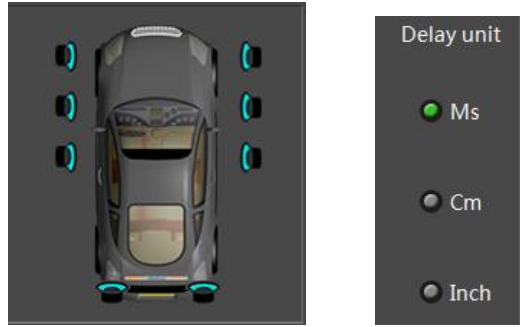

Figure 3.3.3
4. MAESTRO-8DSP processor output signal path can be any type of configuration freedom to any sound field point and the speaker type. The system defaults to full-range passive mode. Figure 3.3.3 as follows;